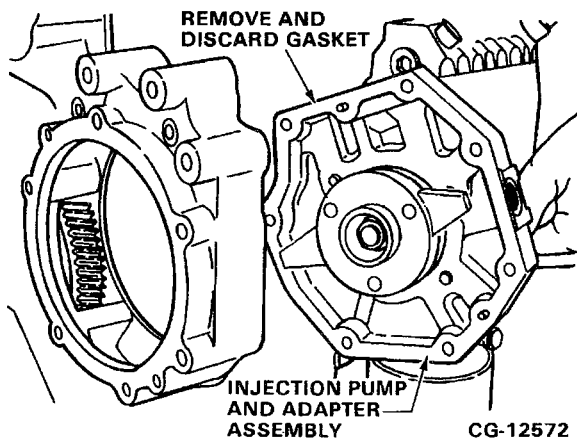

Figure 11.28. Remove Injection Pump Assembly
16. Remove the injection pump and mounting adapter as an assembly. Discard the gasket. Refer to Figure 11.28.